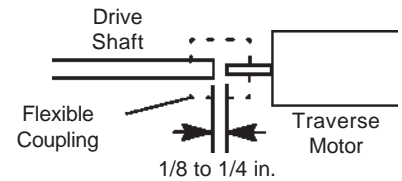

FIG. 10A
- f. Reinstall the drive shaft. The right end of the shaft (inside the coupling) should be $1/8 - 1/4$ " [3 to 6.5 mm] from the end of the motor shaft (See Fig 10A). Retighten all set screws.